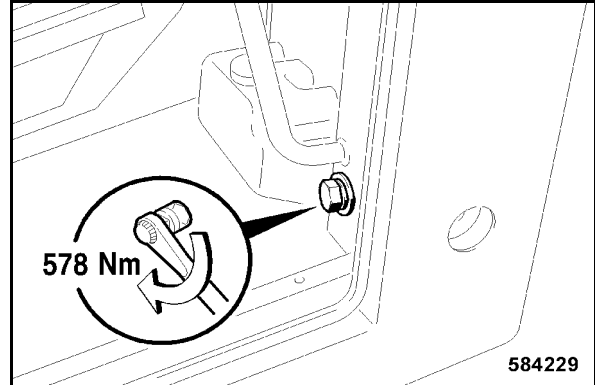

Fig. 209
- Tighten the bottom fastening screw on the access side (Fig. 209) with 578 Nm.